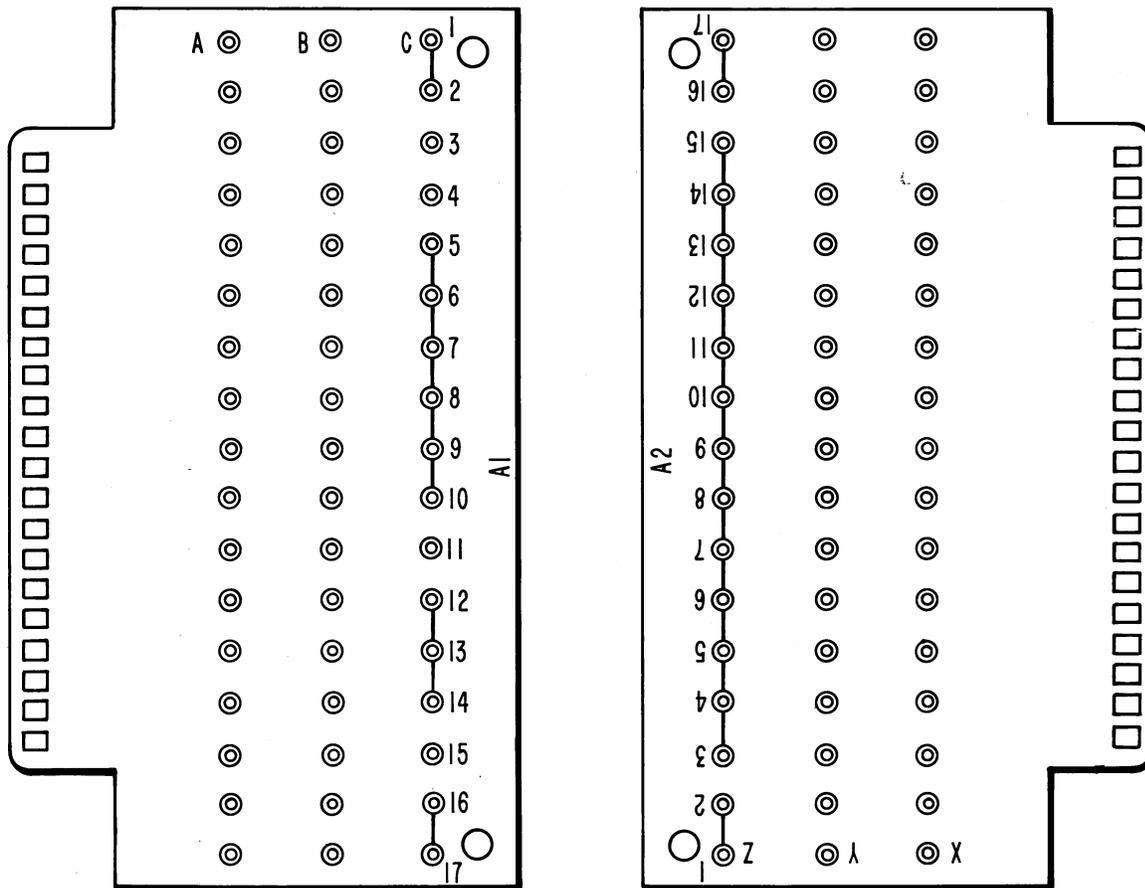
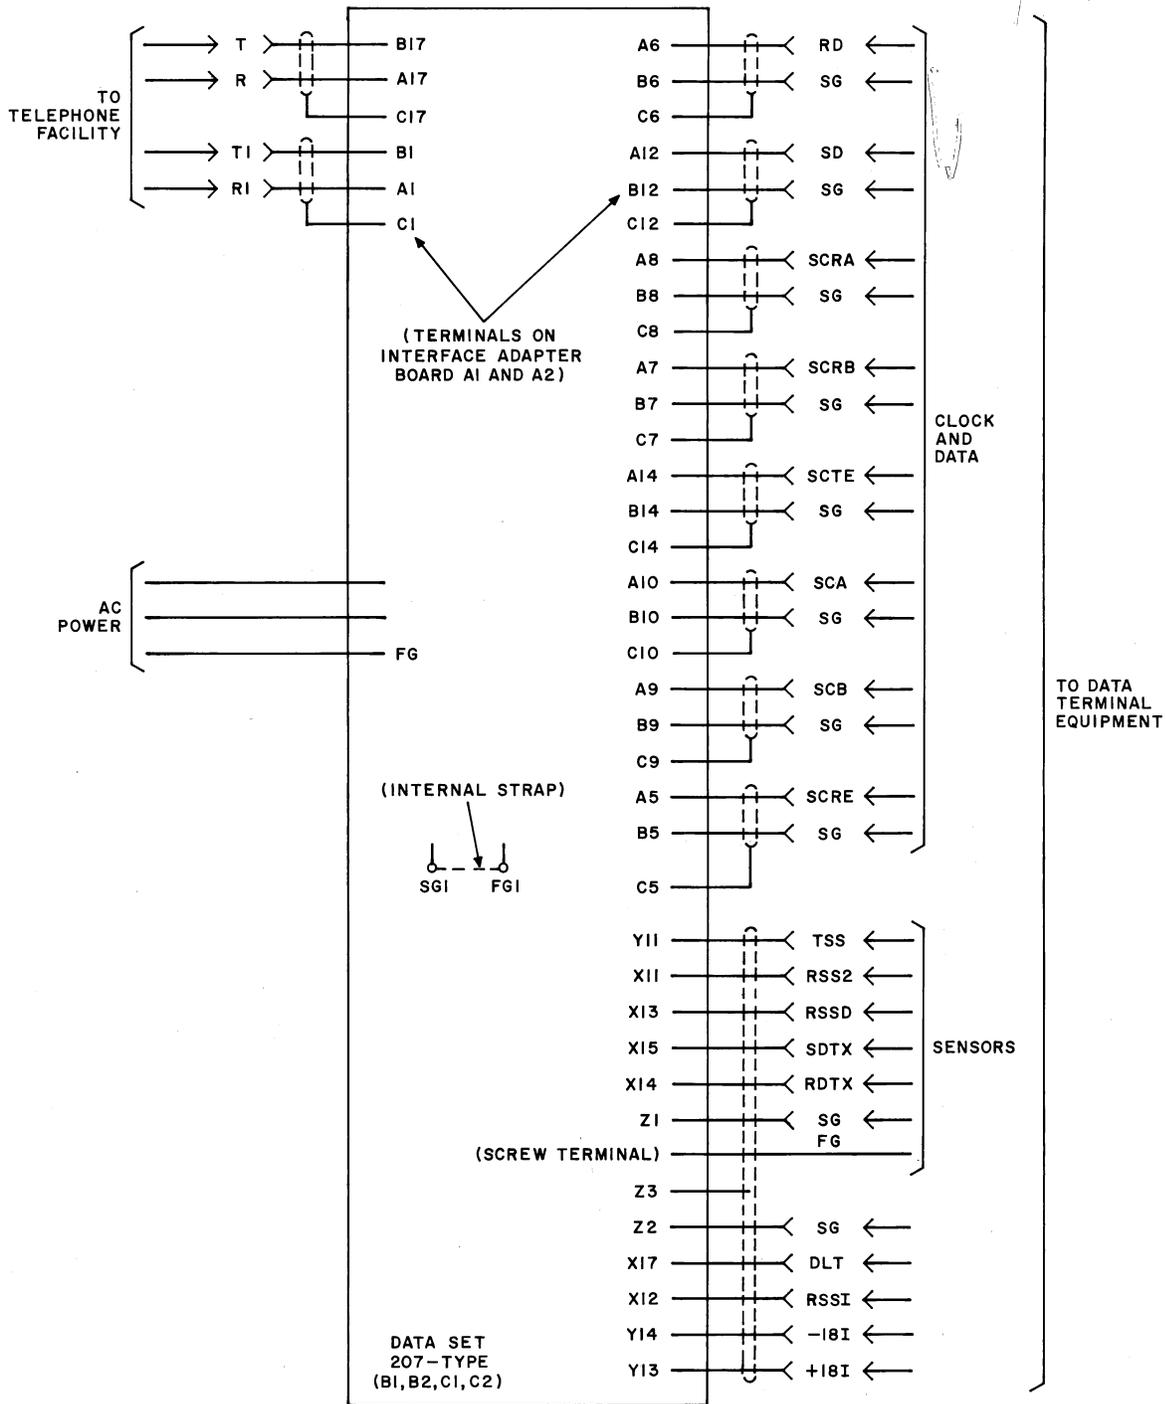
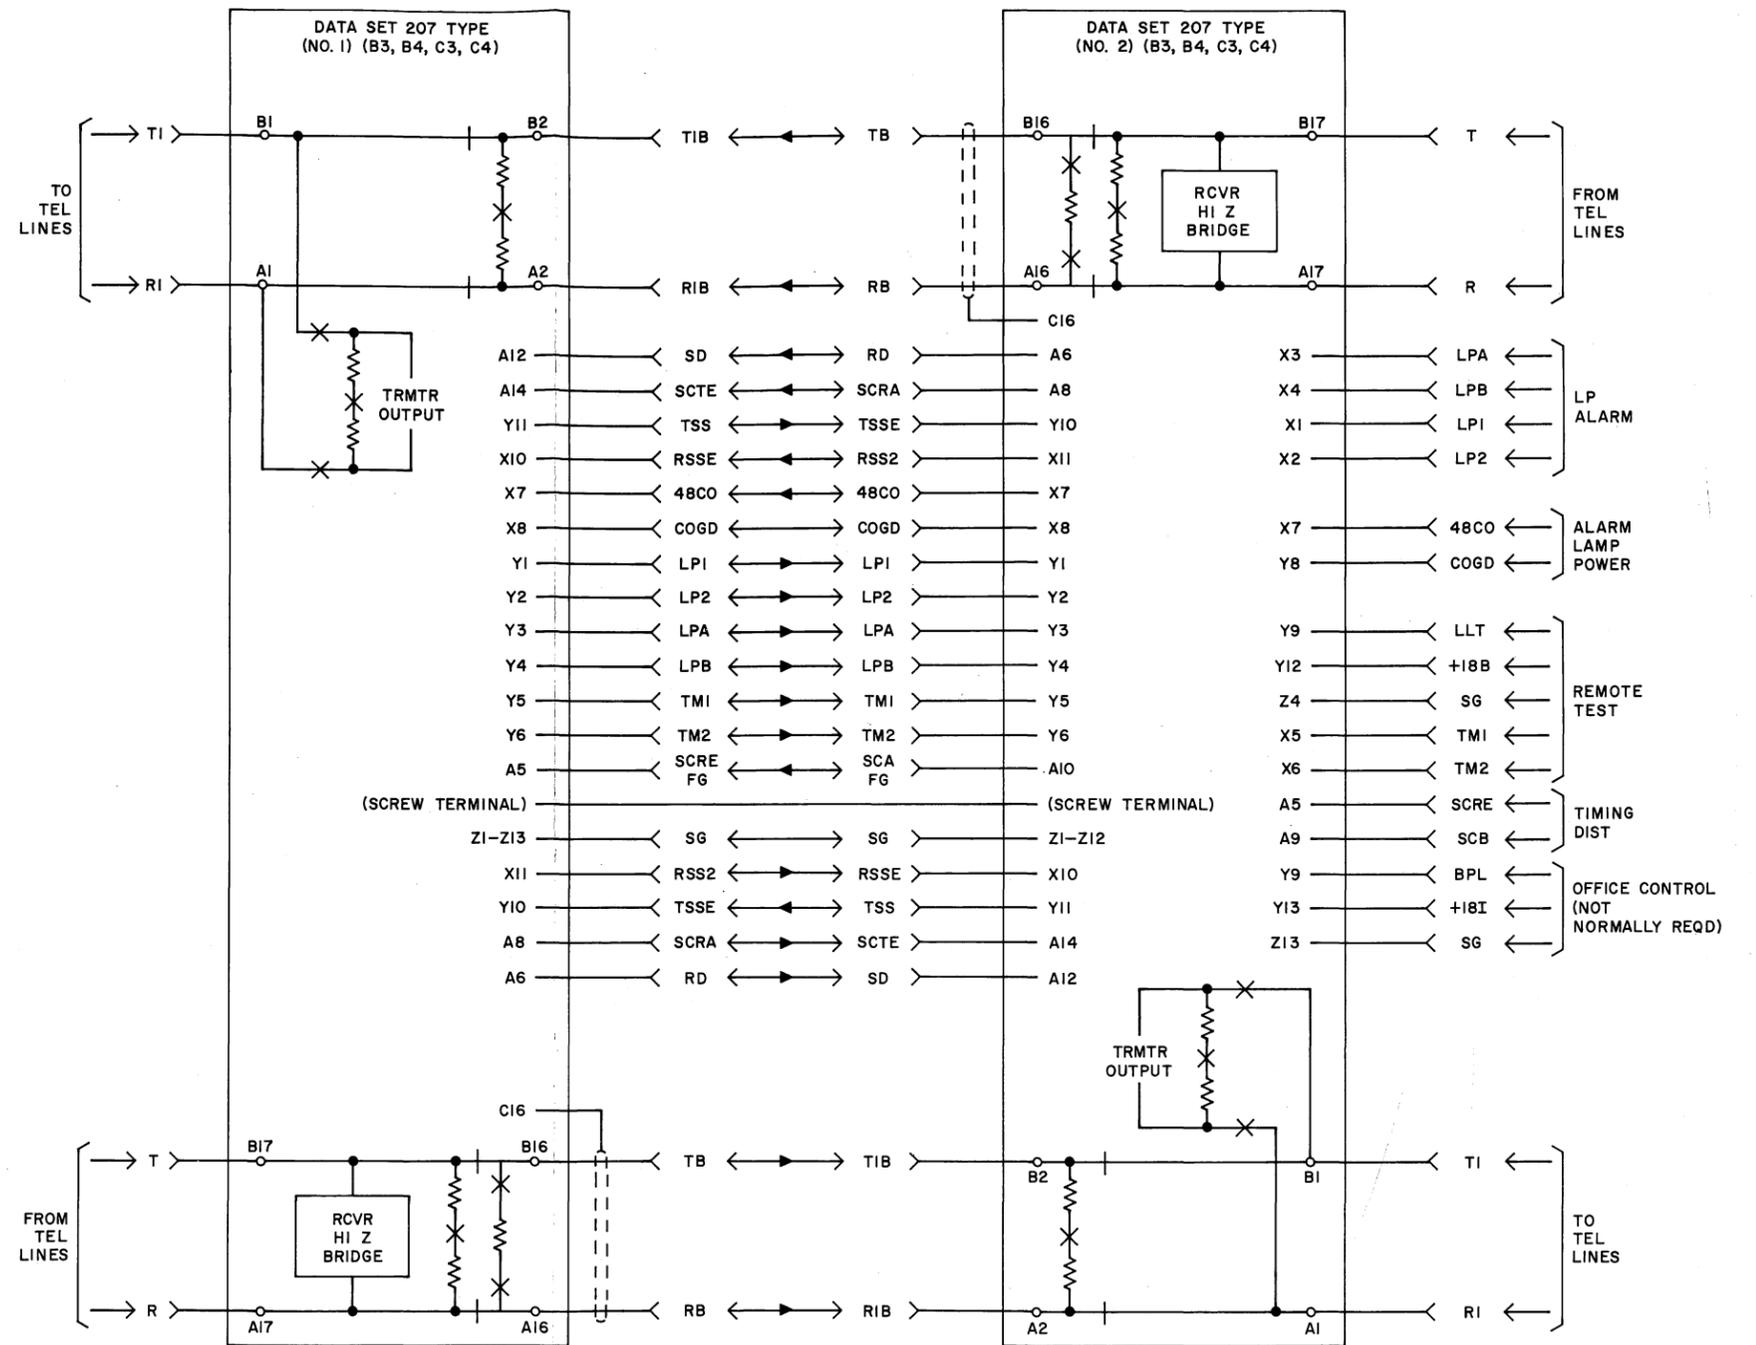
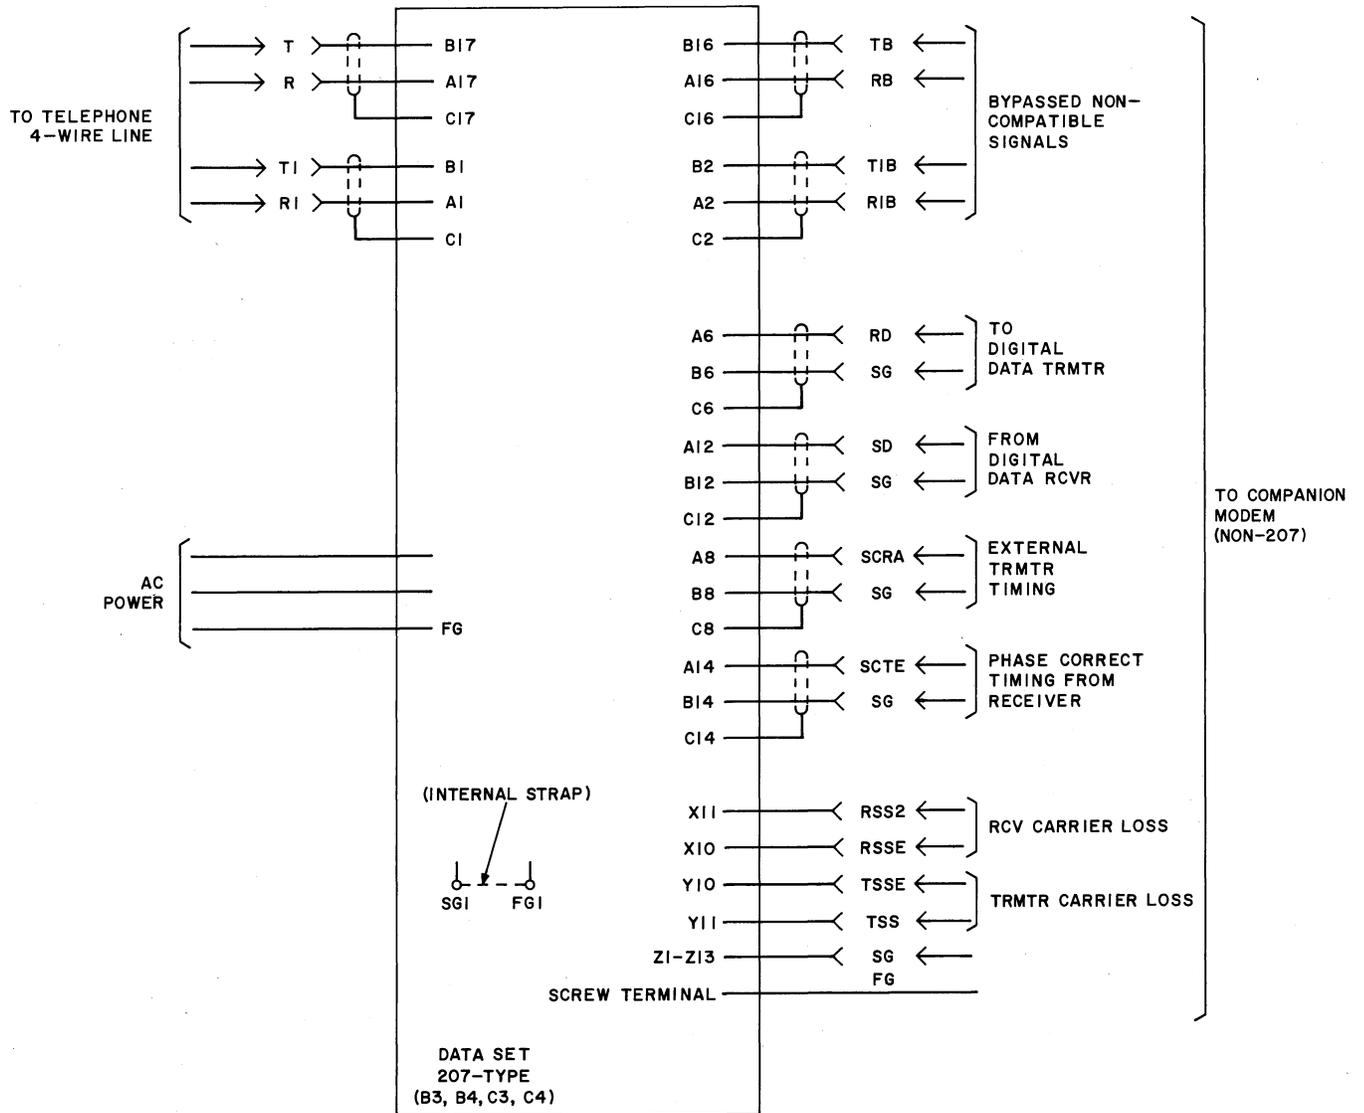

Fig. 8—Data Set 207-Type Interface Adapter Boards
Fig. 9—Interface Connections for a Typical Terminal Station
Fig. 11—Interface Connections for a Typical Regenerator Station Using Two Data Sets 207-Type
Fig. 12—Interface Connections for a Typical Regenerator Station Using One Data Set 207-Type and a Non-207 Companion Modem
away from its associated connector. Identification of the terminals on each board is shown in Fig. 8 and Table D. Customer business machine input and output signals, together with the four-wire telephone facility, are soldered to the terminals. The telephone line must be shielded if it is in the same cable carrying control, clock, or data signals. Connect the wires to the adapter boards A1 and A2 as specified on the service order. Connect the customer Frame Ground interface lead to the provided screw terminal on the adapter board support bracket nearest the "C" nest. Interface connections for a typical terminal station arranged for using Data Set 207-type (B1, B2, C1, C2) are illustrated in Fig. 9.
two screws from each board and lift the board straight away from its associated connector. Identification of the terminals on each board is shown in Fig. 8 and Table D. The companion modem input and output signals, together with the four-wire telephone facility, are soldered to the terminals. The telephone line must be shielded if it is in the same cable carrying control, clock, or data signals. Connect the wires to the adapter boards A1 and A2 as specified on the service order. Connect the Frame Ground interface lead to the provided screw terminal on the adapter board support bracket nearest the "C" nest. Interface connections for typical regenerators arranged for using Data Set 207-type (B3, B4, C3, C4) are illustrated in Fig. 11 and 12.
3.35 Interface connections for a typical regenerator station arranged for using two Data Sets 207-type (B3, B4, C3, C4) are illustrated in Fig. 11. Interface connections for a typical regenerator station arranged for using one Data Set 207-type (B3, B4, C3, C4) and a compatible non-207-type companion data set are illustrated in Fig. 12.